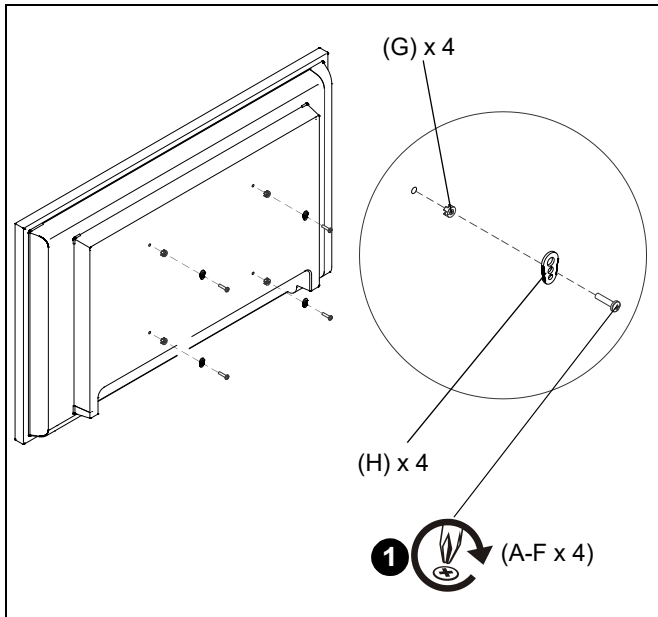

Figure 8
1. Select correct screws, nesting spacers (if necessary) and universal washers (if required) from the hardware bag (A-H) and install hardware to back of screen. (See Figure 8)